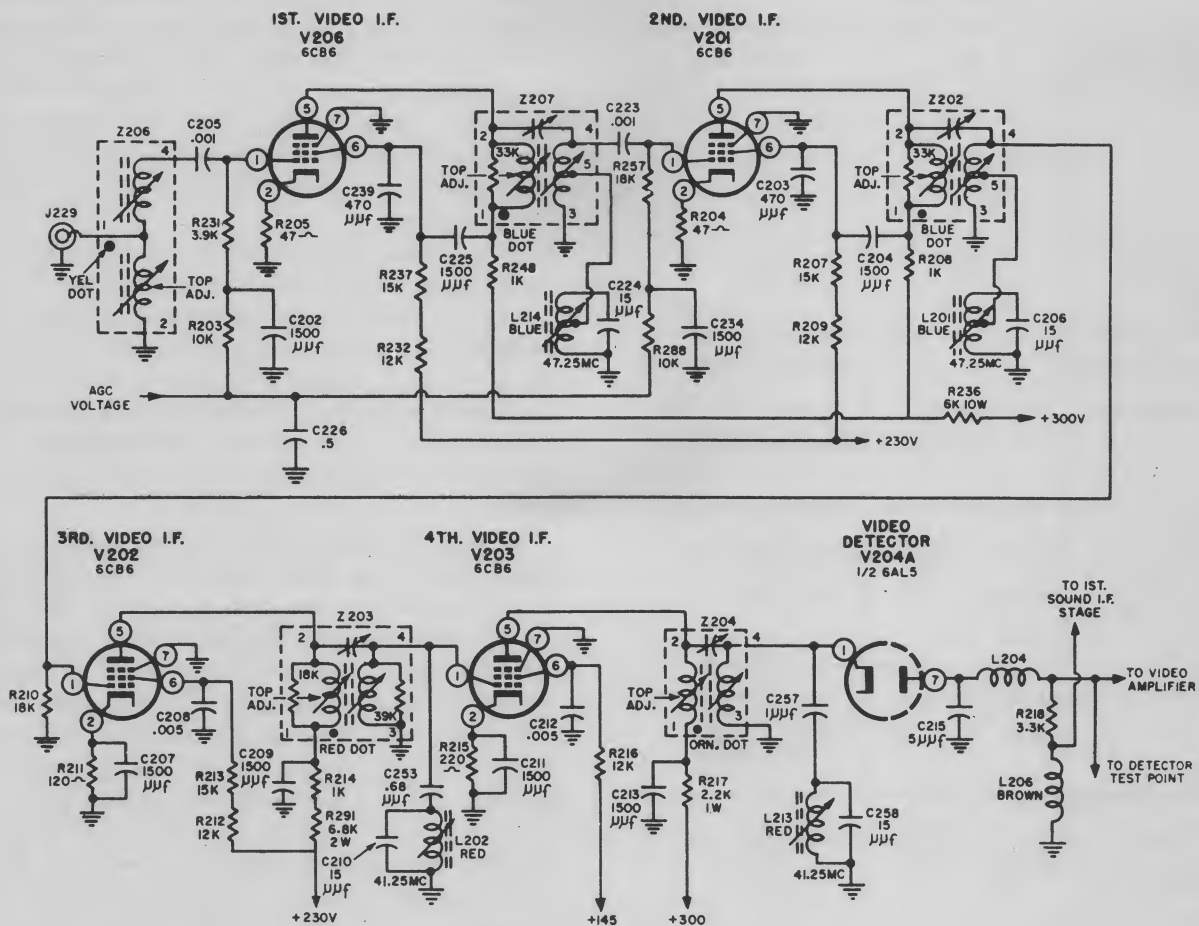

Fig. 6-6. Schematic diagram of video i-f stages and the video detector: DuMont RA162.
*b. Transformer-Coupled Pix I-F Amplifiers and Video Detector.* Figure 6-6 is the schematic diagram of the video i-f amplifiers and video detector, used in the DuMont Teleset RA162. This is typical of overcoupled i-f stages used in the following receivers: Capehart CX-36, Emerson Model 727D, Hoffman Model 7M124, Magnavox Model MV106, RCA 17T301, and Zenith Model 19L27. All the receivers listed employ i-f's in the 40-mc range.
The frequencies which are amplified and detected by the circuit in Fig. 6-6 are: the 45.75-mc picture i-f carrier and its attendant modulation; and the 41.75-mc sound i-f carrier and its modulation. There are four stages of i-f amplification utilizing the 6CB6. One half of a 6AL5 is used as the video detector. The cathodes of the first two i-f amplifiers are unbypassed, introducing enough degeneration to mini-